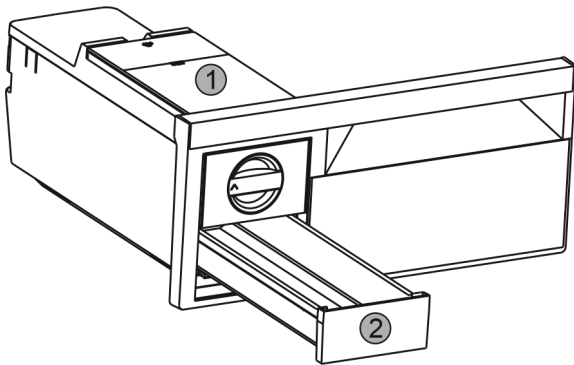

Fig. 58
- ▶ Take out the water tank Fig. 58 (1) and ice cube drawer Fig. 58 (2).